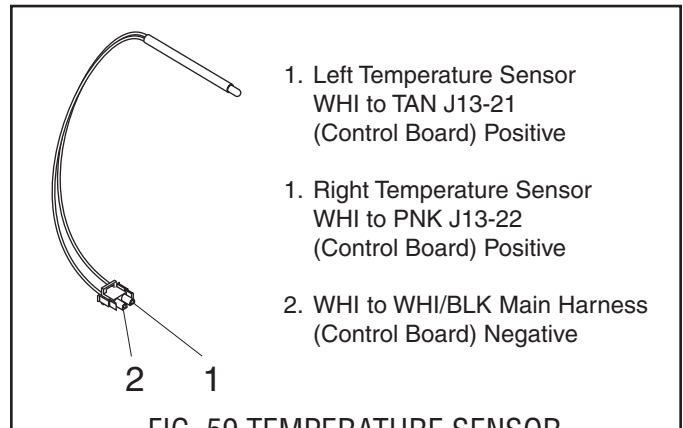

FIG. 59 TEMPERATURE SENSOR
5. Refer to Fig. 59 and reconnect the wires.